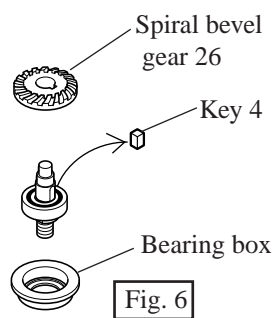

Fig. 6
- (4) Spiral bevel gear 26 can be separated from the shaft of drill chuck S-10 by hand. And then remove bearing box.
See Fig. 6. Be careful, not to lose key 4 in this step.